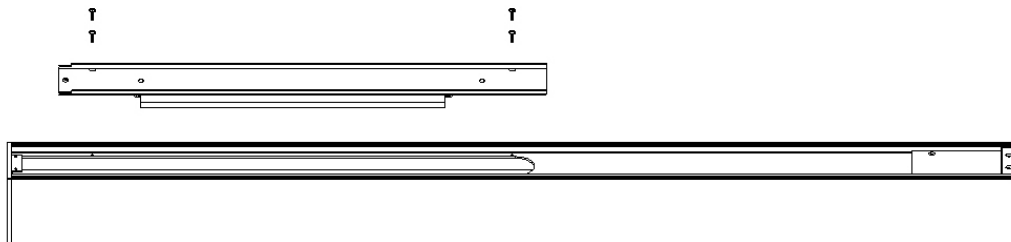

Fig. 8
3. Remove four #6 flat head screws and lift up the top cover plate. (Fig. 8)